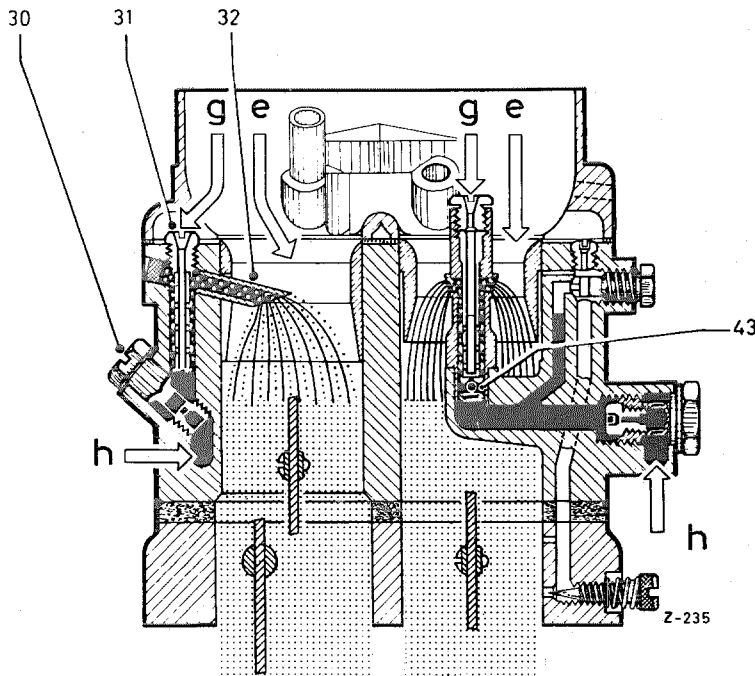

Fig. 07 — 0/16
As the engine speed increases in the full-load range, the degree of depression in Stage 2 also increases and in consequence, the vacuum valve opens. Fuel-air mixture is now supplied by both stages (Fig. 07 — 0/16). The mixture is supplied from Stage 2 via the main jet (30), the mixing tube with air correction jet (31) and the exhaust tube (32).